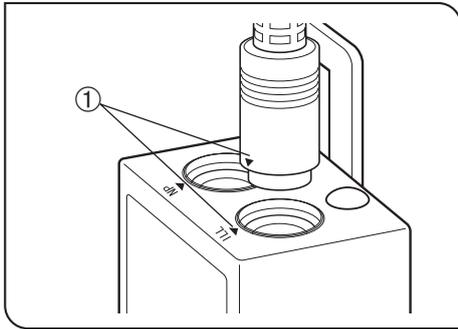

Fig. 1
When connecting a cable to the BX3-RFAS, U-D7RES, U-5RES-ESD or U-D5BDRES-ESD connector, align the ▼ markings ① on the connectors of the cable and the U-CBS (Fig. 1).